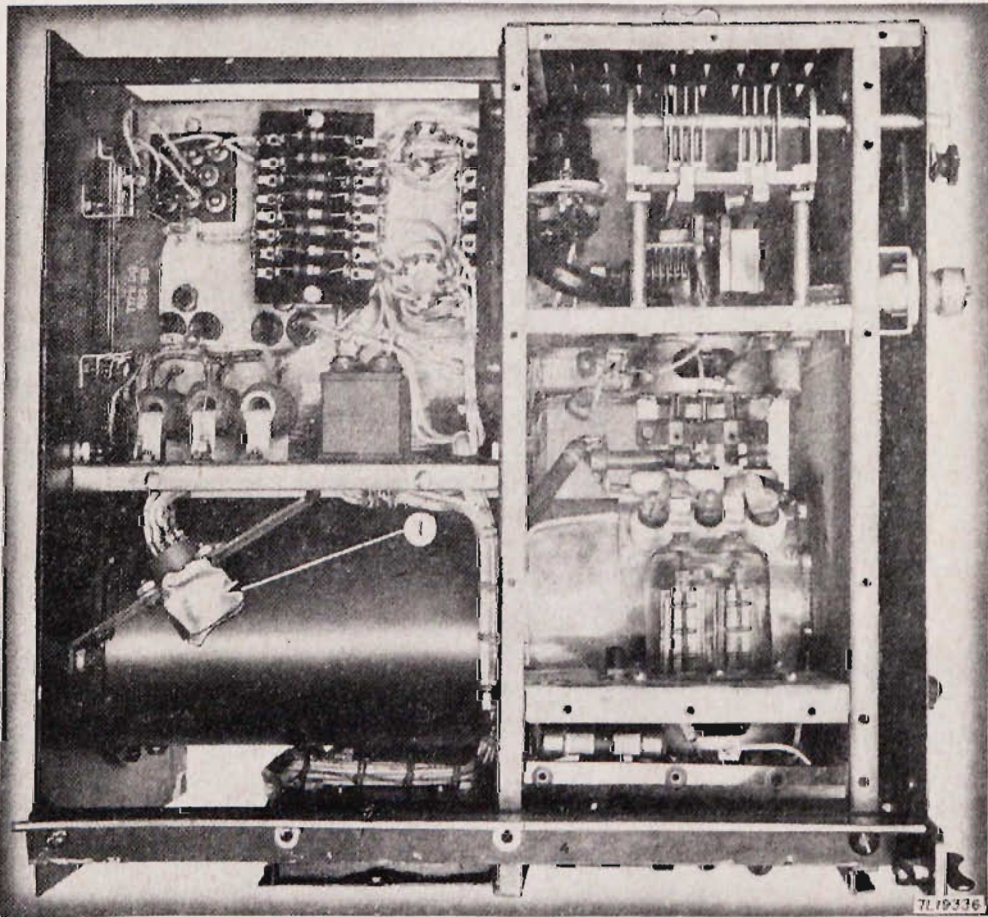

Figure 67. Radio Transmitter T-30/TRC-8 (XC-3),
- (1) Mask connector plug (item 1, fig. 67).